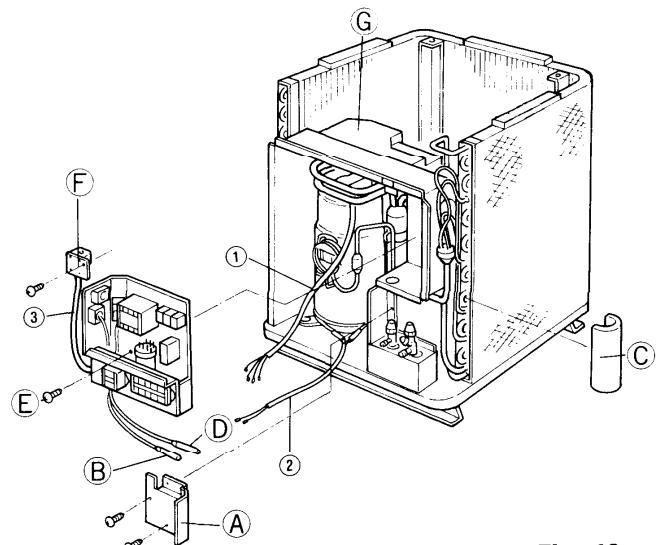

Fig. 19
- (2) Remove the insulation (C), loosen the fitting fixing the sensor (D), and remove the sensor.
- 3) After completion of the above work, remove the screw (E) and then remove the electrical component box.
- 4) Loosen the screw of the mounting plate (F) fixing the solenoid valve and remove the cover (G). Fig. 19